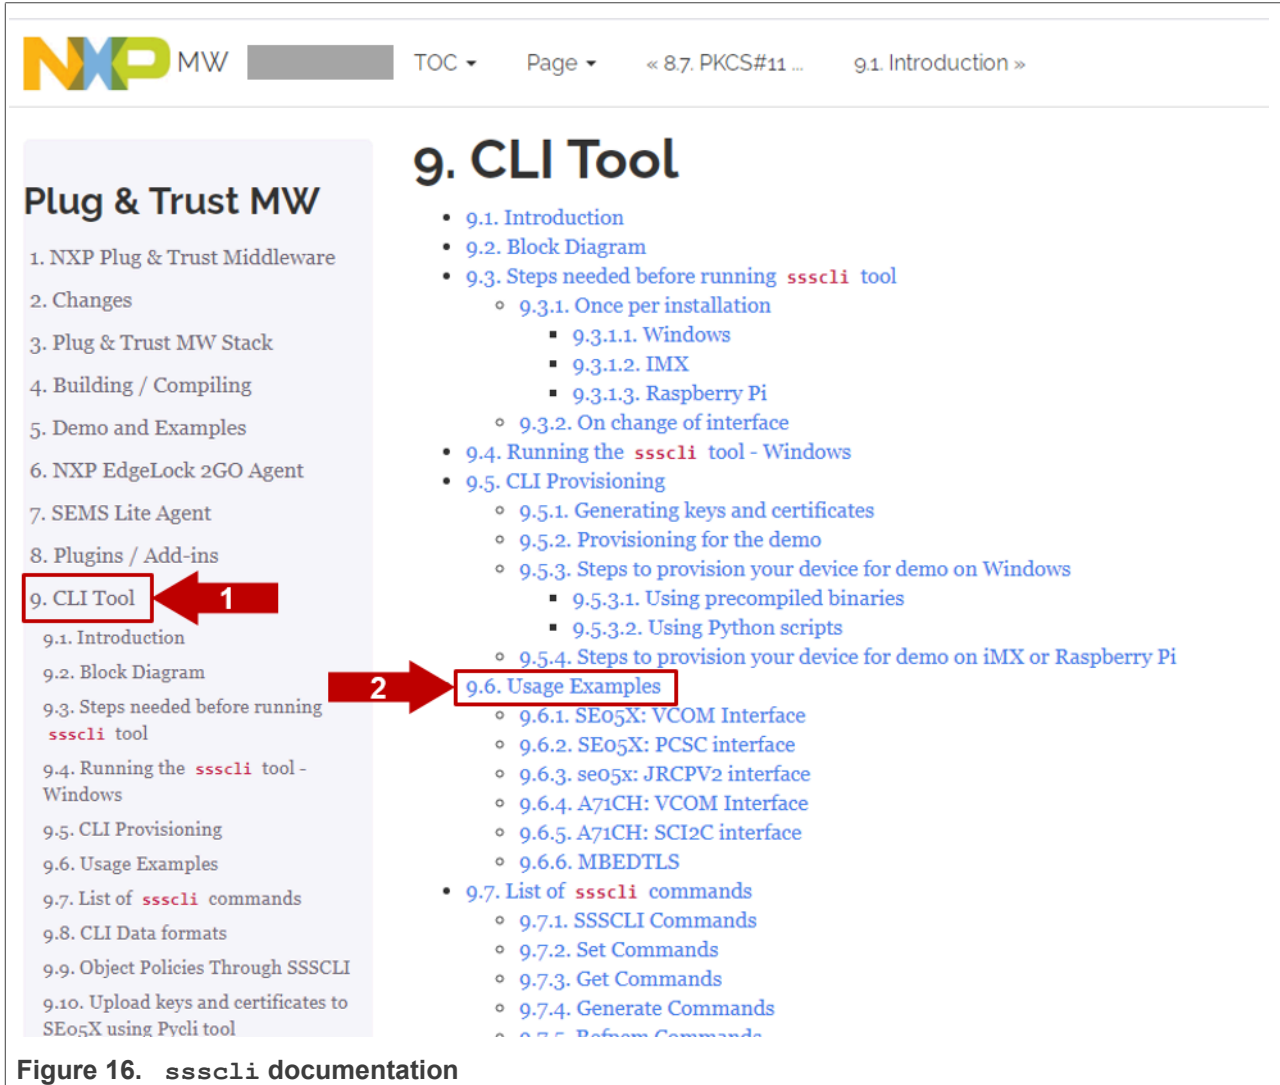

Figure 16. ssscli documentation
5. Click on Section 9 CLI tool and then click on the Section 9.6 Usage examples as shown in Figure 16